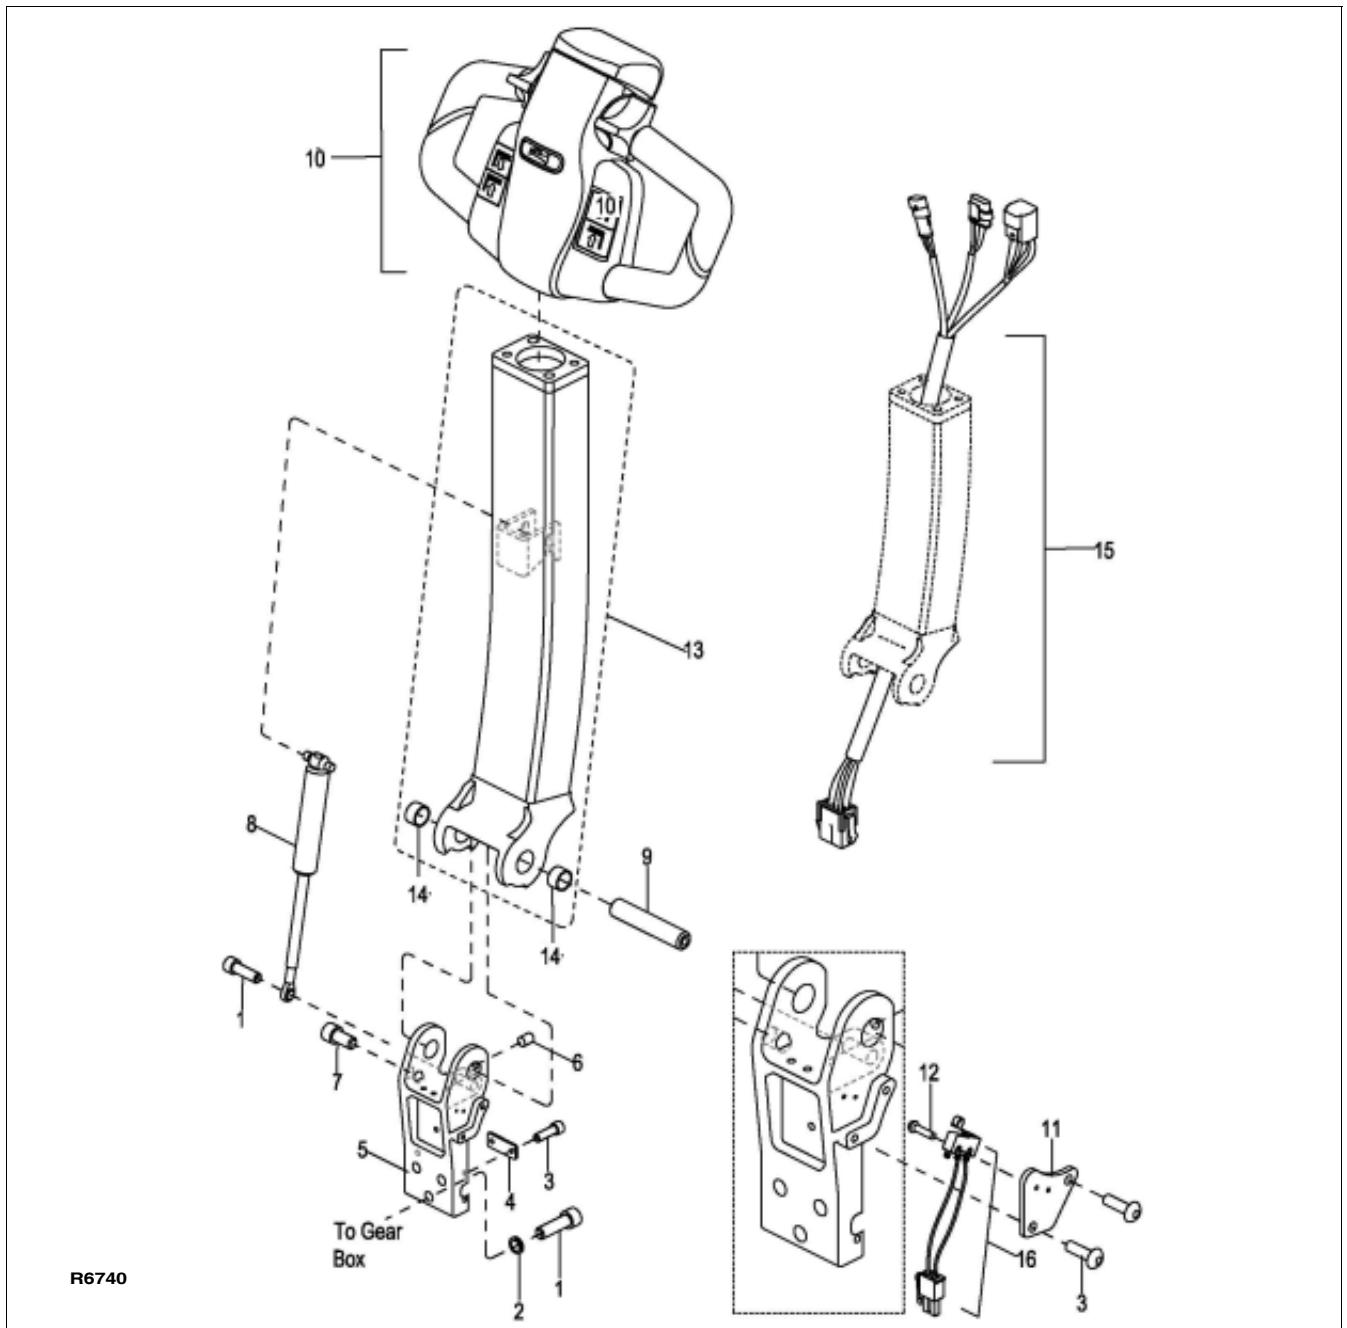
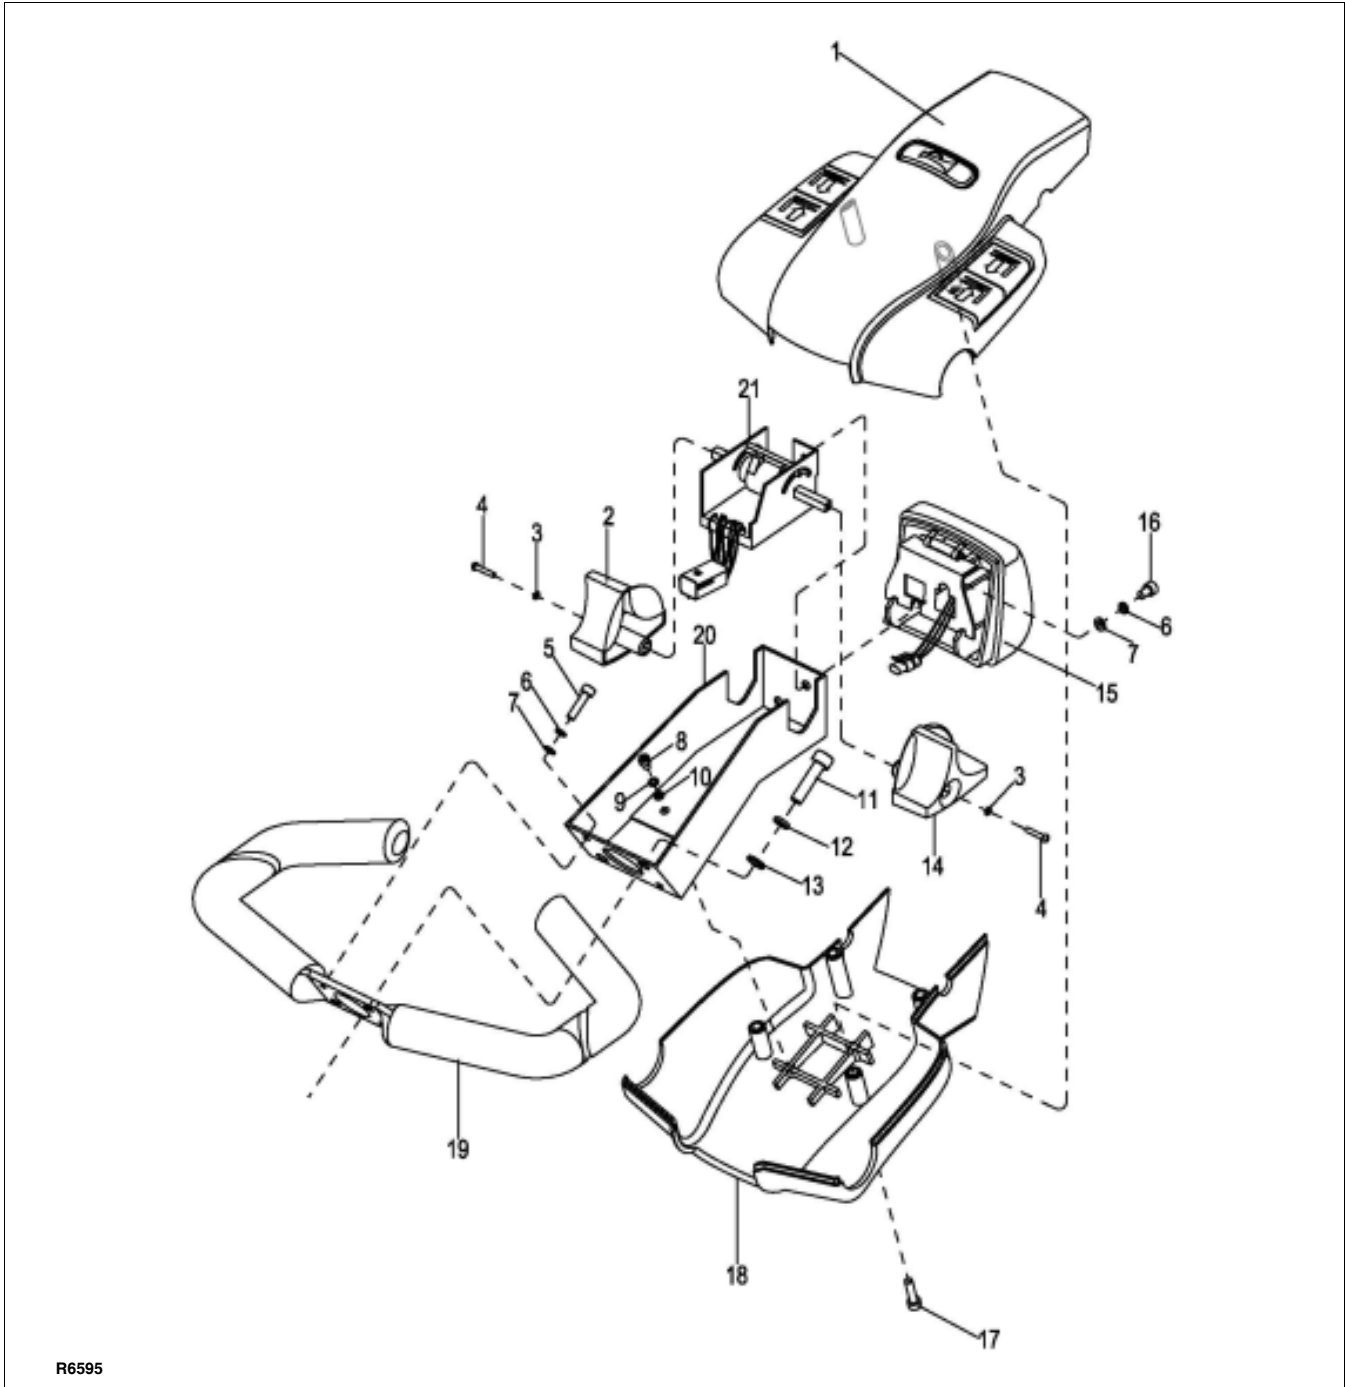

Figure 5-1 Steering Arm
Figure 5-2 Control Head
2. Remove the cap assembly (1, Figure 5-2) as described in paragraph 5-1.3.
3. Disconnect harness (15, Figure 5-1) from potentiometer (21, Figure 5-2).
4. Disconnect harness (15, Figure 5-1) from emergency reverse switch (15, Figure 5-2).
5. Remove two screws (5), two washers (7) and two flat washers (6).
1. Secure control head and handle (19, Figure 5-2) with two screws (11), two washers (12) and two flat washers (13).
2. Install two screws (5), two washers (6) and two flat washers (7).
3. Reconnect harness (15, Figure 5-1) to emergency reverse switch (15, Figure 5-2).
4. Reconnect harness (15, Figure 5-1) to potentiometer (21, Figure 5-2).
2. Remove four screws (17, Figure 5-2) and lift up cap assembly (1).
1. Hold cap assembly (1, Figure 5-2) in place and connect harness (10, Figure 12-17) to harness (9).
2. Disconnect harness (15, Figure 5-1) from potentiometer (21, Figure 5-2).
3. Remove screw (4), washer (3) and control knob (2) from potentiometer (21).
4. Remove screw (4), washer (3) and control knob (14) from other side of potentiometer (21).
5. Remove two screws (16), lock washers (6) and flat washers (7) and remove potentiometer (21) from bracket (20).
6. Position new potentiometer (21) in bracket (20) and secure with two screws (16), lock washers (6) and flat washers (7).
7. Install control knob (2) on potentiometer (21) and secure with screw (4), and washer (3).
8. Install control knob (14) on the other side of potentiometer (21) and secure with screw (4), and washer (3).
9. Reconnect harness (15, Figure 5-1) from potentiometer (21, Figure 5-2).
2. Disconnect harness (15, Figure 5-1) from emergency disconnect switch (15, Figure 5-2).
3. Remove two screws (16), lock washers (6) and flat washers (7) and remove switch assembly (15) from bracket (20).
5. Remove two pins (3) and switch assembly (6) from bracket (4).
6. Position the new switch assembly (6) in bracket (4) and secure with two pins (3).
7. Position bracket (4) and springs (2) in button (1) and install pin (5).
8. Position switch assembly (15, Figure 5-2) on bracket (20) and secure with two screws (16), lock washers (6) and flat washers (7).
9. Reconnect harness (15, Figure 5-1) to emergency reverse switch (15, Figure 5-2).
The steering arm gas return spring (6, Figure 5-2) is replaced while the steering arm (5) is in the upright position.